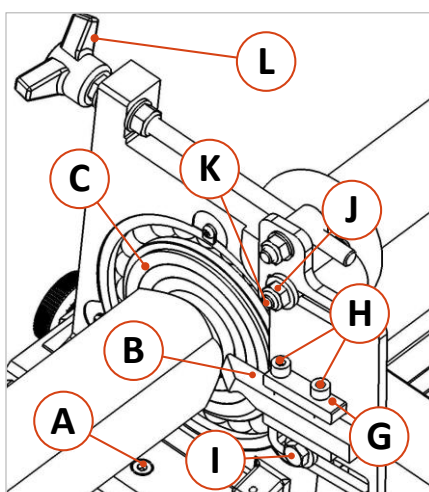

Figure 20: Movable steady rest "pre-turning"
Pre-turning (⇒ Figure 20): With the tool (B) clamped in the tool holder (G) of the steady rest, a tenon is pre-turned which guides the workpiece through the steady rest by means of a ring (C) corresponding to the tenon diameter.